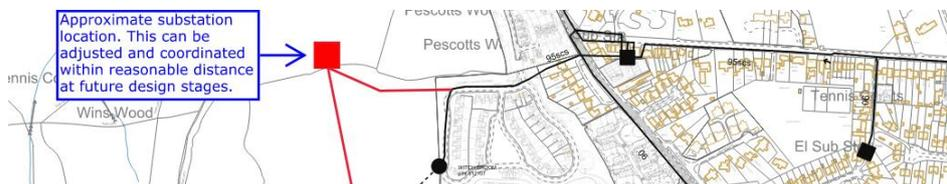

Figure 11: Proposed new substation and development HV network
5.4.3 A network study is required to confirm the POC and/or the extent of reinforcement which will be necessary in order to provide the required capacity. This study will be carried out on receipt of request for a formal quotation. Load at the Primary Substation is limited therefore works at the primary may also be required to provide the capacity required (Figure 11).